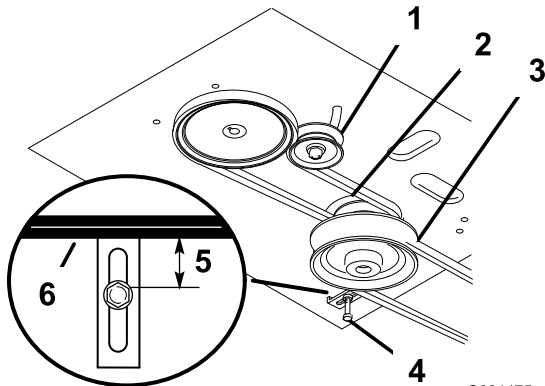

Figure 38
4. Remove the mower belt (Figure 38).
5. Loosen the pivot bolt enough to slide the idler pulley in the slot, and remove the traction belt from the engine and drive pulleys (Figure 38).
6. Install the new drive belt around the engine and drive pulleys (Figure 38).
7. Slide the idler pulley in the engine frame to tension the traction belt (Figure 38).
8. Install the mower belt (Figure 38).
9. Check the belt guide under the engine frame for the proper adjustment (Figure 38).
13. Check the belt guide under the engine frame for the proper adjustment (Figure 38).